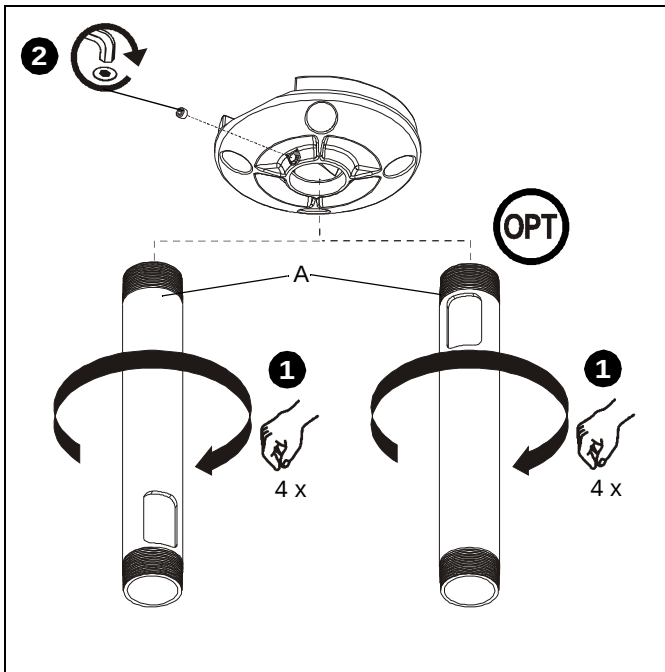

Figure 1
1. Install 1-1/2" NPT threaded column (A) into plate/adaptor (See Figure 1). Securely tighten column.
- Ensure column (A) engages four full threads into plate/adaptor.
- Secure column (A) by tightening set screw in plate/adaptor (See Figure 1).